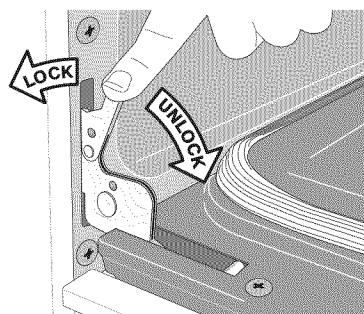

Figure 36: Hinge lock/unlock positions
2. Pull the door hinge locks on both left and right door hinges down from the oven frame completely towards the oven door (Figure 36). A tool such as a small flat-blade screwdriver may be required.
4. Push the door hinge locks up towards and into the oven frame on both left and right oven door hinges (Figure 36) to the locked position; then, close the oven door.